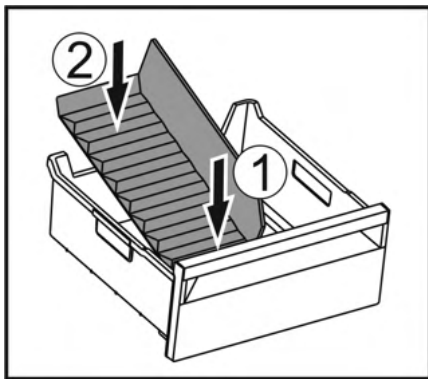

Fig. 156
- ▶ Insert the front part of the ice compartment divider. Fig. 156 (1)
- ▶ Lower the rear part of the ice compartment divider to the drawer bottom. Fig. 156 (2)